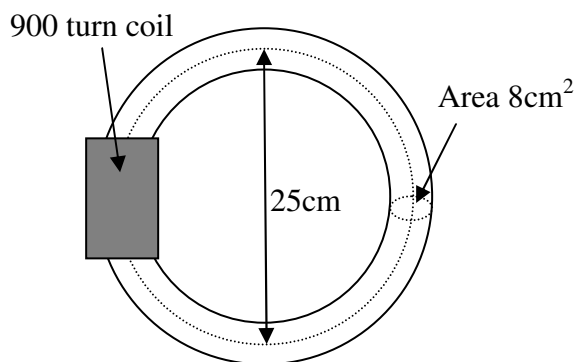

Figure 2.1
- (i) Calculate the magnitude and phase angle of the current drawn from the supply. Calculate the power factor and state whether this is leading or lagging. (*Take the supply voltage as reference*). (2)
- (ii) What is the kVA rating of the equipment on the assembly line? (1)
- (iii) Calculate the reactive power drawn from the supply in kVAr (1)
- (i) Calculate the new kVA rating of the site. (5)
- (ii) Calculate the new overall power-factor and state whether it is lagging or leading. (1)
- a. A coil of 900 turns is wound on a toroidal iron core having of mean diameter 25cm and cross-sectional area  $8\text{cm}^2$  as shown in Figure 2.1. The core has a relative permeability,  $\mu_r = 1000$ . (Assume the permeability of free space,  $\mu_0 = 4 \times \pi \times 10^{-7} \text{H/m}$ .)